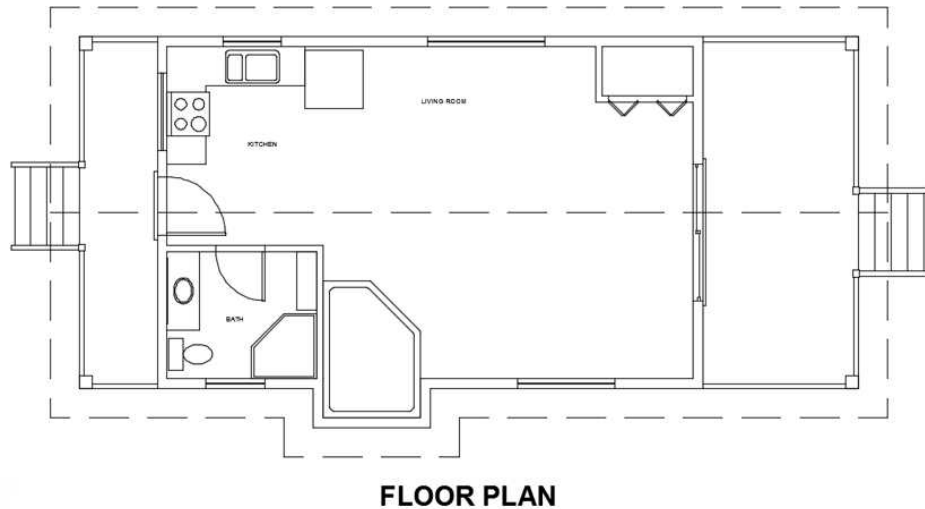

FIGURE 8.20: The LIVING ROOM, KITCHEN, and BATH text moved to their proper positions
the two as you begin positioning the room labels in your cabin. Figure 8.20 shows how the text will look after it is moved into position.
5. Move the BATH text between the bathroom cabinet and shower, as shown in Figure 8.20.
6. Repeat the MOVE command by pressing \downarrow , moving the KITCHEN text to the position shown in Figure 8.20.